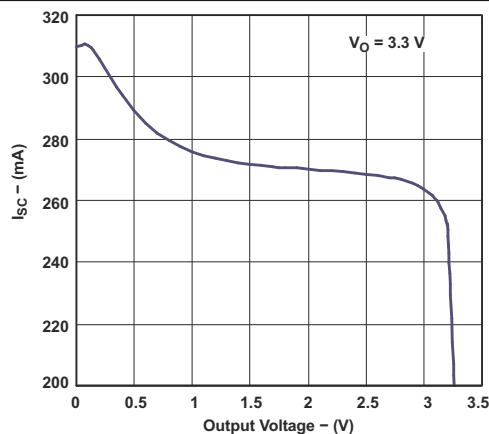

Figure 6-6. Short-Circuit Current vs Output Voltage
- (1) Dropout voltage is defined as the input-to-output differential at which the output voltage drops 100 mV below the value measured with a 1-V differential.
- (2) The ON/OFF input must be driven properly for reliable operation (see the Application and Implementation section).
- (3) See Figure 6-6 in the Typical Characteristics section.